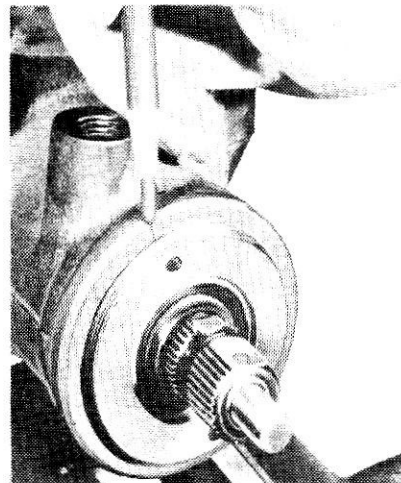

FIG. 6 Marking Housing with Adjuster Plug Bottomed
4. Mark the housing even with one of the holes in the adjuster plug (see Fig. 6).